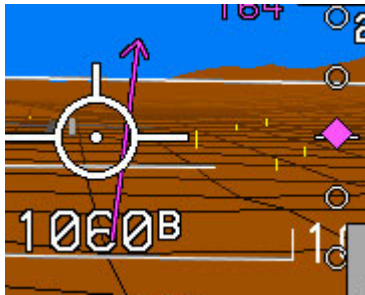

Figure 3
6. Select the HSI display on the PFD (See figure 3) and MFD(s).